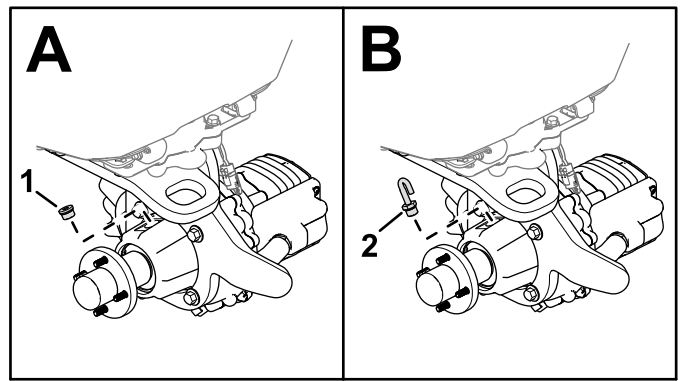

Figure 4
7. Remove the plug from the top of the gearbox (A of Figure 4).
8. Secure the vent hose and fitting to the gearbox (B of Figure 4).